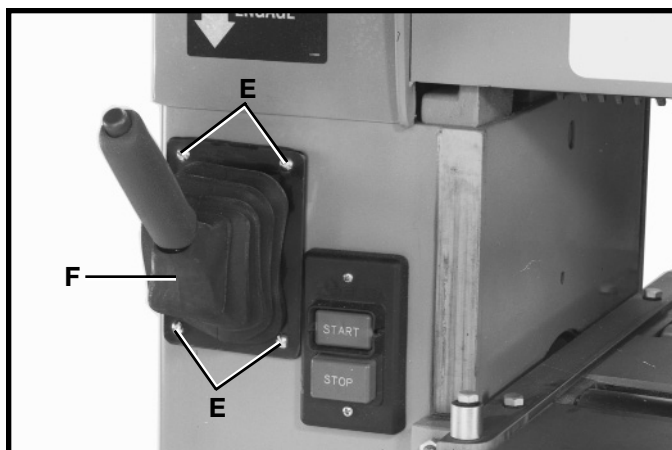

Fig. 31
- Remove four screws (E) Fig. 31, which hold engagement lever boot (F) to the machine.